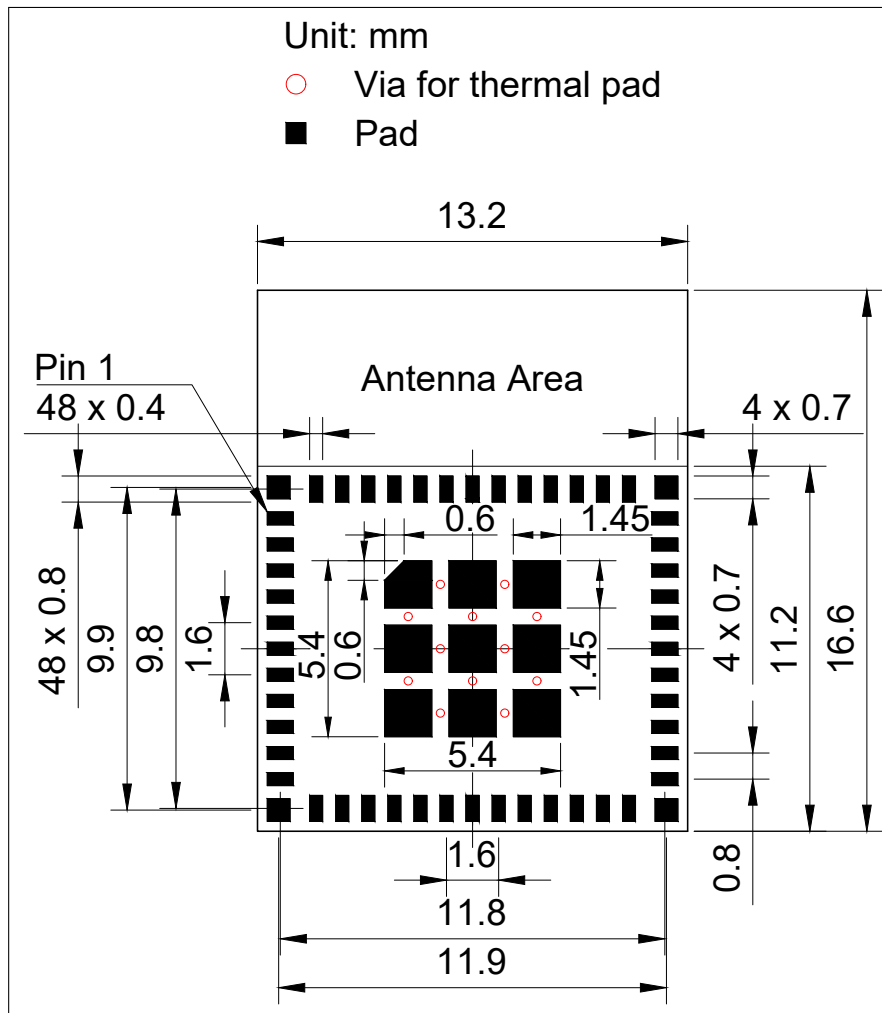
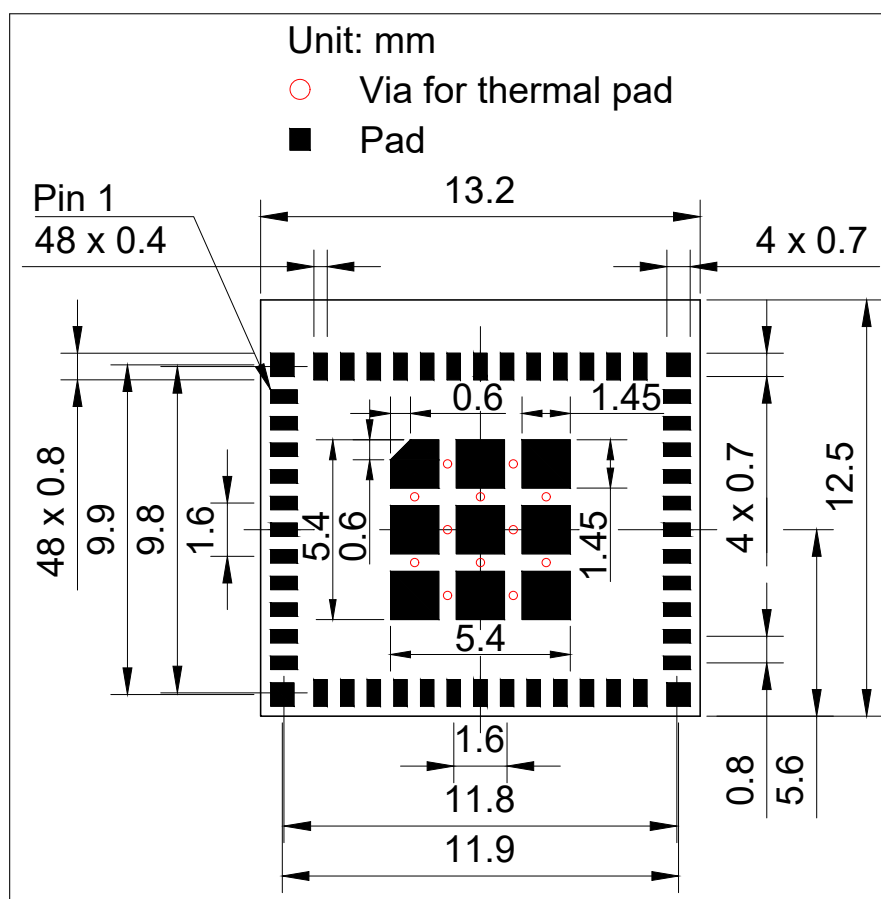

Figure 11: ESP32-H2-MINI-1 Recommended PCB Land Pattern
Figure 12: ESP32-H2-MINI-1U Recommended PCB Land Pattern
- Figure 11 *ESP32-H2-MINI-1 Recommended PCB Land Pattern* and Figure 12 *ESP32-H2-MINI-1U Recommended PCB Land Pattern*: the recommended PCB land patterns with all the dimensions needed for PCB design.
- Source files for ESP32-H2-MINI-1 and ESP32-H2-MINI-1U: the recommended PCB land patterns to measure dimensions not covered in Figure 11 and Figure 12. You can view the source files with Autodesk Viewer.